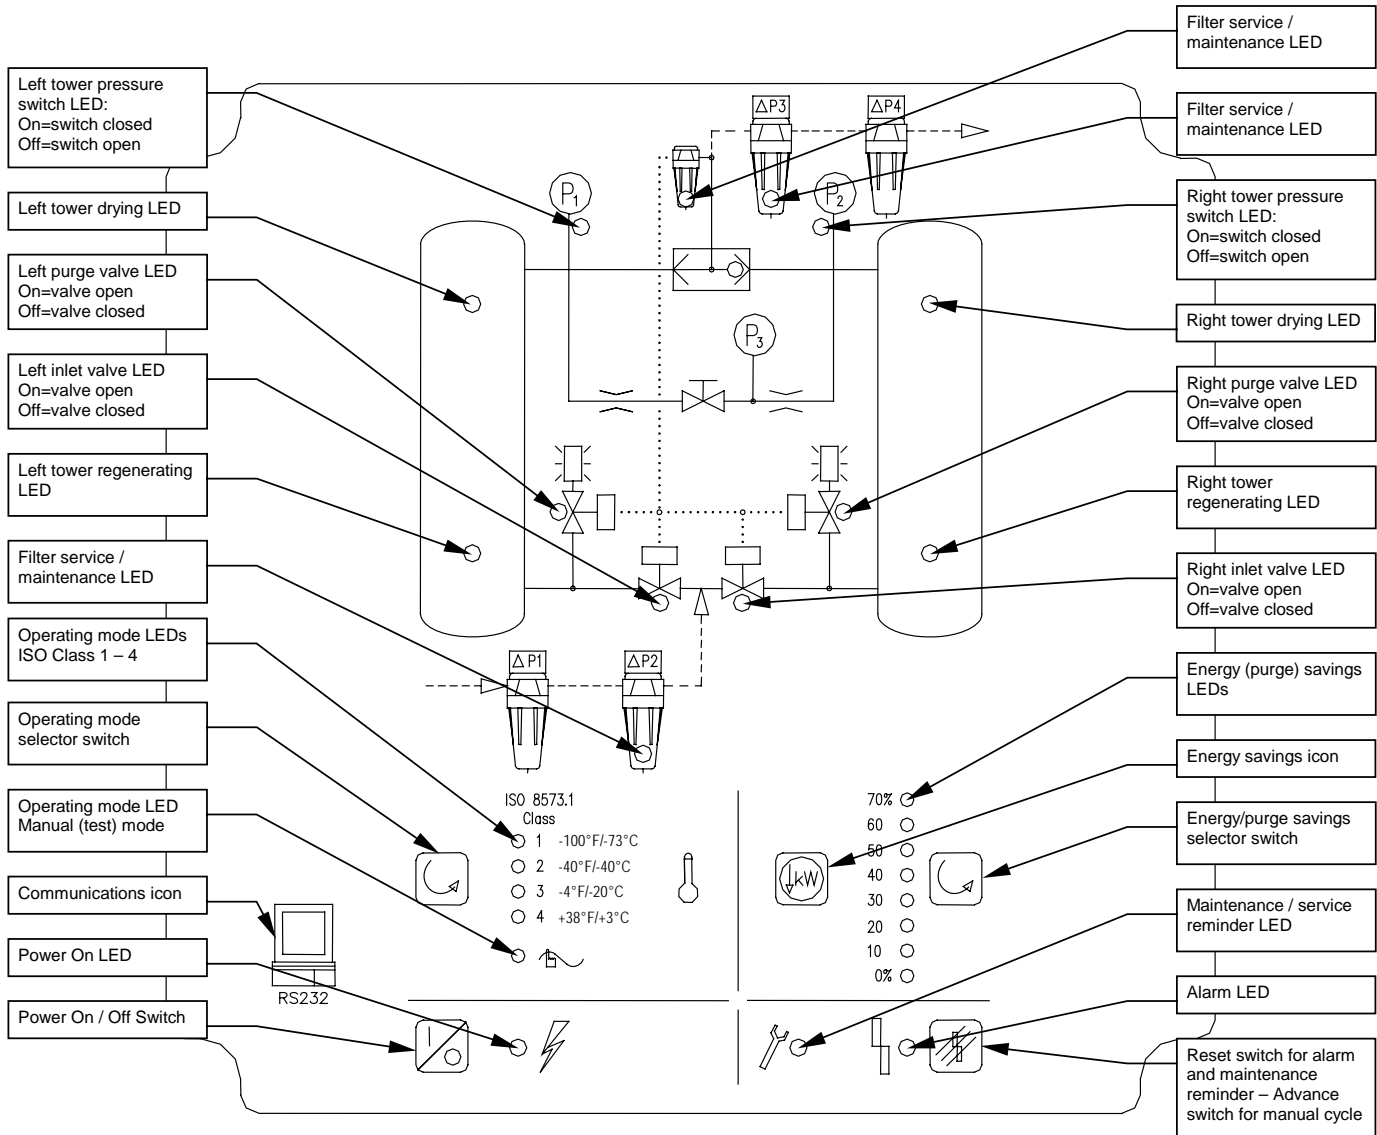

Figure 6-1
- *Figure 6-1, Front Panel Overlay – Level 1 Controller*
The front panel contains four momentary-contact push button switches. Refer to *Figure 6-1, Front panel Overlay – Level 1 Controller* for the appropriate icon associated with each switch. Pushing on the overlay icon actuates the switch. Switching can be affected remotely by wiring external pushbuttons to the J2 terminals located on the rear of the display board. Refer to Section 6.2.4.